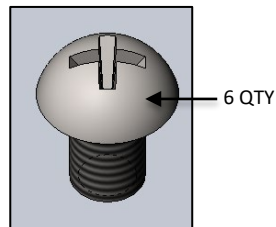

FIG.5 - BRACKET SCREWS
- a. BRACKET SCREWS (as shown in FIG.5)